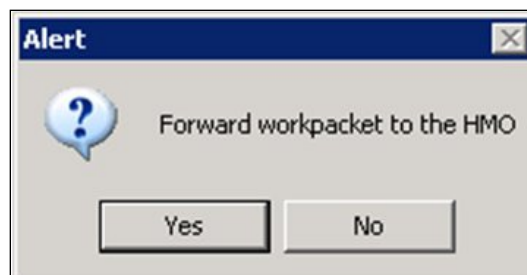

Figure 10-19: Forward Work Packet to HMO Dialog Box
26. Click the SUBMIT FOR HMO APPROVAL button. The Forward Work Packet to HMO dialog box is displayed (Figure 10-19).